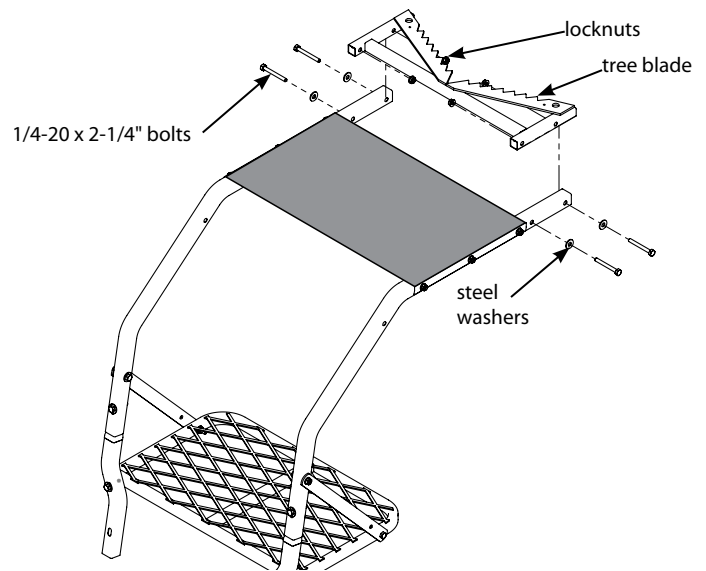

Figure 4
5. Attach the tree blade weldment (SL67) to the rear end of ladder side rails using (4) provided 1/4-20 x 2-1/4" bolts, locknuts and steel washers. **SEE FIGURE 4. The tree blade will be a tight fit in order to correctly span the seat properly. You must now tighten all nut and bolt assemblies. Be sure not to over tighten or crush tubing when tightening!**